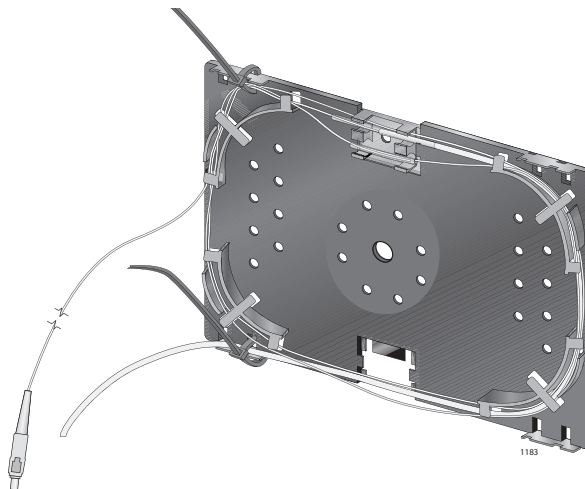

Figure 28. Securing the Pigtail
8. Route the pigtail once around the splice tray and out through the upper left corner and secure it with another wire tie, as shown in Figure 28.